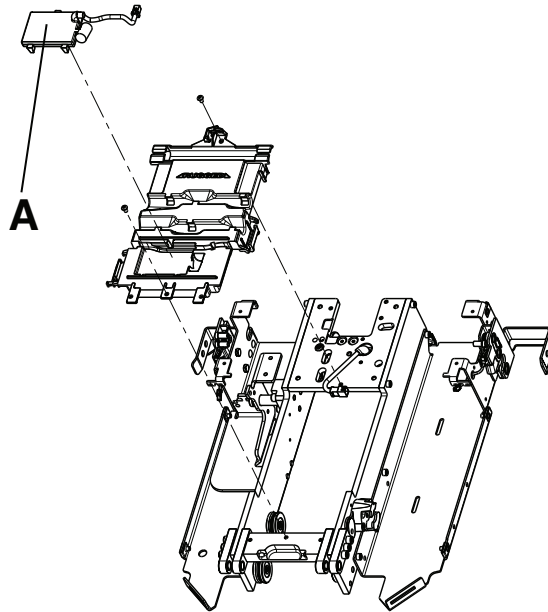

Figure 20 – Communication board assembly
4. Lift up on the trolley communication board (A) to remove (Figure 20). Discard the communication board.